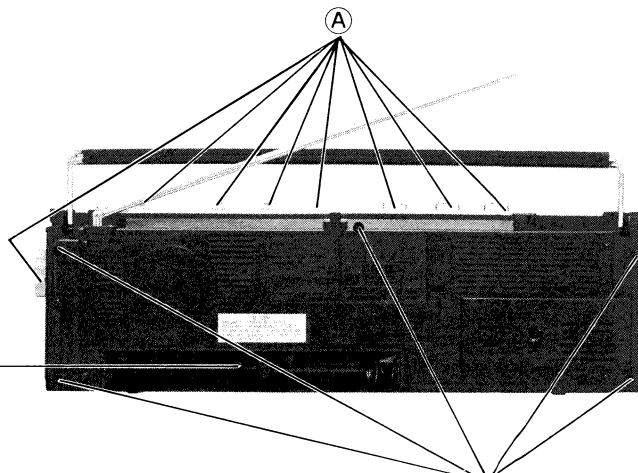

Figure 3 (B) $3\phi \times 35\text{mm}$ (BID)
1. Remove eight knobs (A) . (Figure 3)
3. Remove five screws (B) ($3\phi \times 35\text{mm}$) fixing back cabinet and one screw (C) ($3\phi \times 12\text{mm}$), and the front cabinet will be removed. (Figure 3).